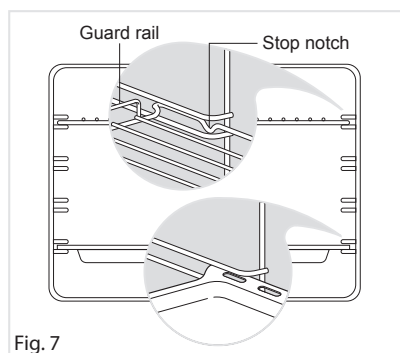

Fig. 7
- Slide into the guides, the shelf and the tray (fig. 7).